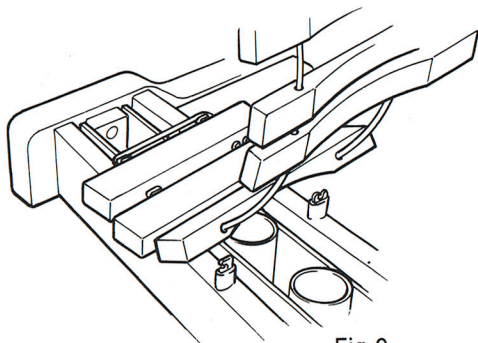

Fig 9
- 8 The tone bars are set starting with the natural tone bars. First, with another person, hold the tone-bar suspension cords on each end and place the tone bars on the frame. (Fig 9)